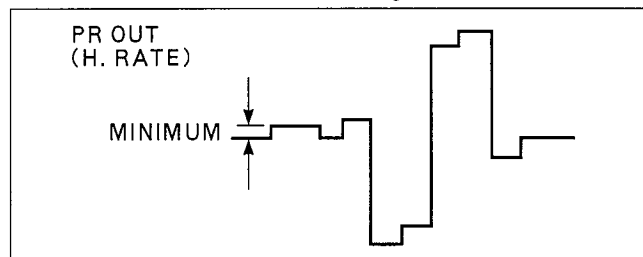

Figure E22-A
2. Adjust VR8203 so that the level becomes minimum (0mV \pm 10mV) as shown in Figure E22-A.